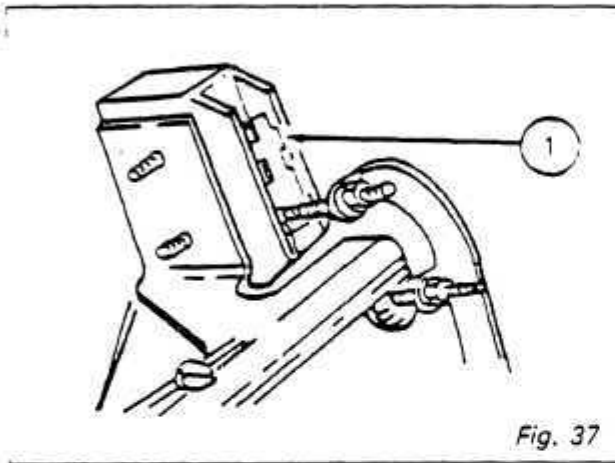

Fig. 37
The idle speed control system is only in operation when a microswitch (Fig. 37) (1) is closed by the throttle plates being in a fully closed position. This switch is located on the engine throttle linkage and allows the ECU module to operate. The ECU module senses engine speed from the tachometer and activates the idle speed regulator. The regulator changes the position of the rotary air valve in order to maintain a specified idle speed.